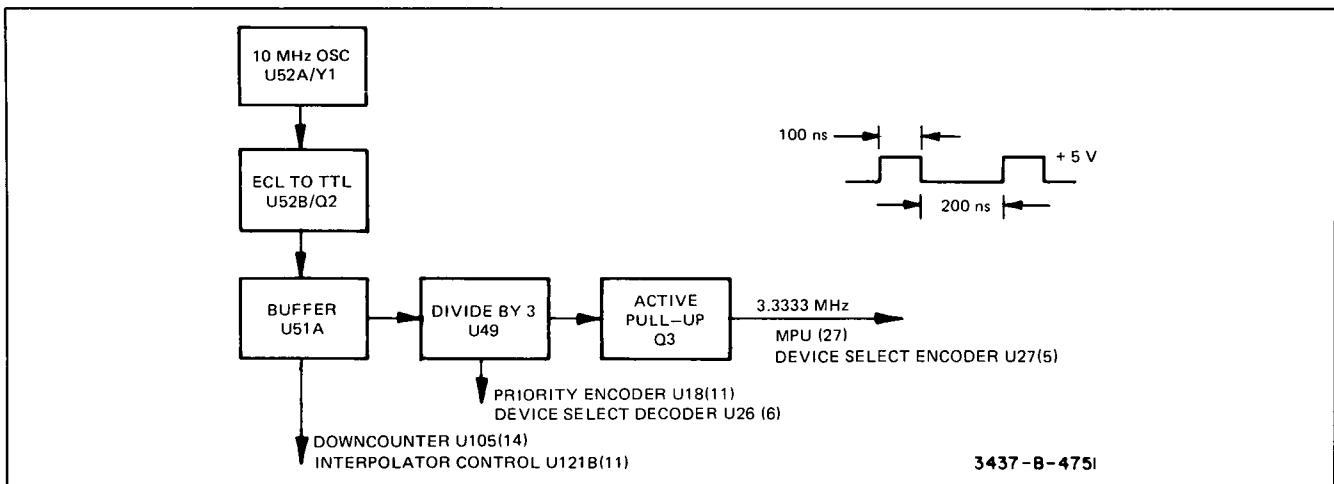

Figure 4-14. 10 MHz System Clock.
**4-54. System Clock.** The ECL gate (U52A) functions as a linear positive-feedback amplifier, sustaining 10 MHz oscillations by providing positive feedback (non-inverting output) through the 10 MHz crystal. The 10 MHz output is level converted (ECL to TTL) then divided by three. The divider network introduces asymmetry such that the clock period is high for 100 ns and low for 200 ns (Figure 4-14). Transistor Q3 (active pull-up) level translates the 3.33 MHz clock so that clock transitions occur between 0 and + 5 volts.
4-65. Refer to Figure 4-14. The time between the external trigger and positive transition of the system clock (quantization error) is measured and stored. The delay logic then begins to count clock periods. After one clock period has lapsed (100 ns), the interpolated time (80 ns) is added to the lapsed clock period plus an additional interpolated time of 20 ns, resulting in a total delay of 200 ns.